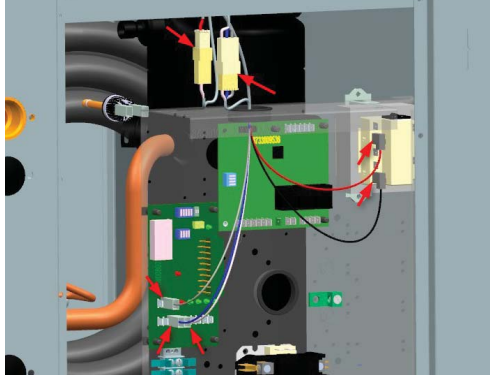

Figure 39
9. The Unit Control Box wiring should look as shown in figure 39.